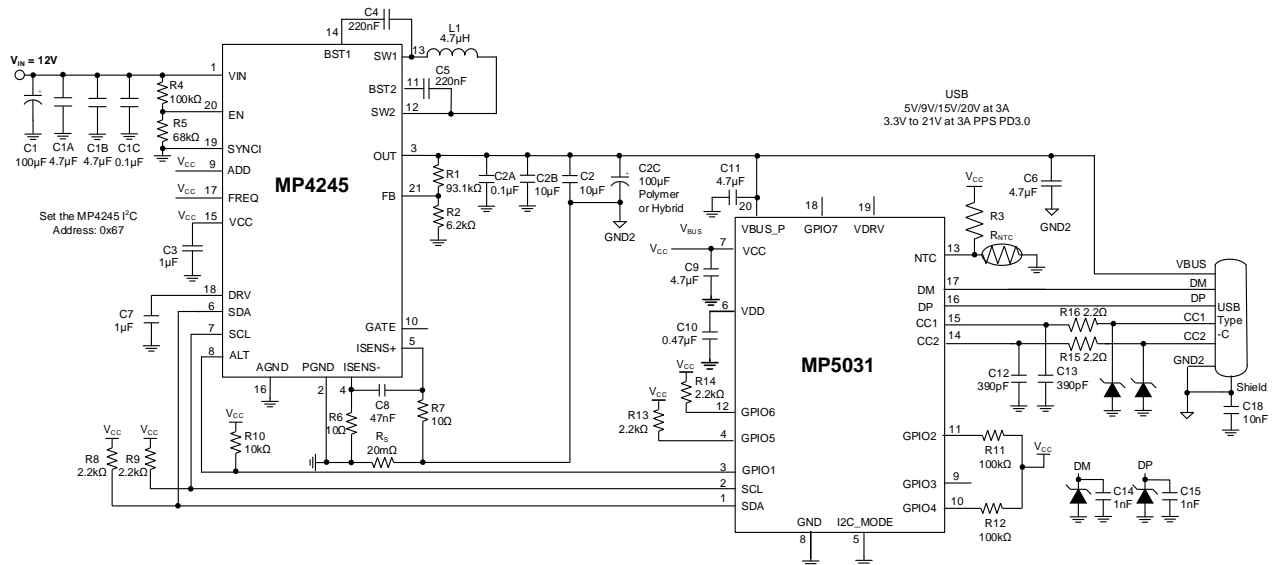

Figure 22: MP4245 and MP5031 60W PD Application (14)
13) The recommended layout is based on Figure 22 in the Typical Application Circuits section on page 40.